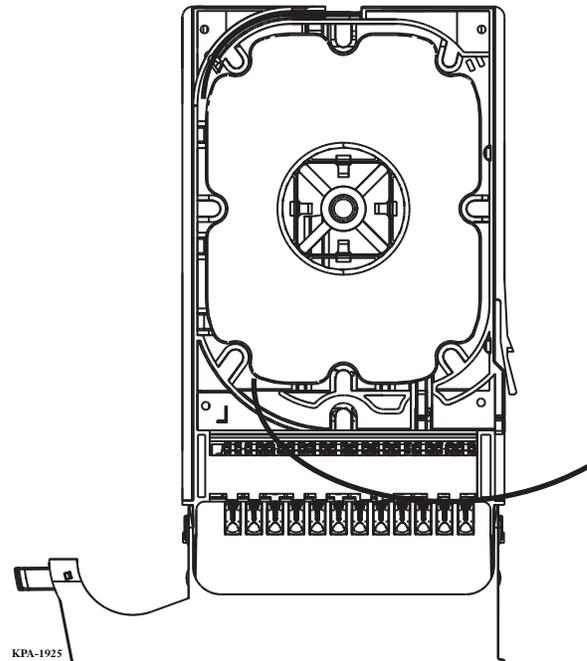

Figure 39
Step 3: Hold tube in straight position (tightened) (Figure 39).